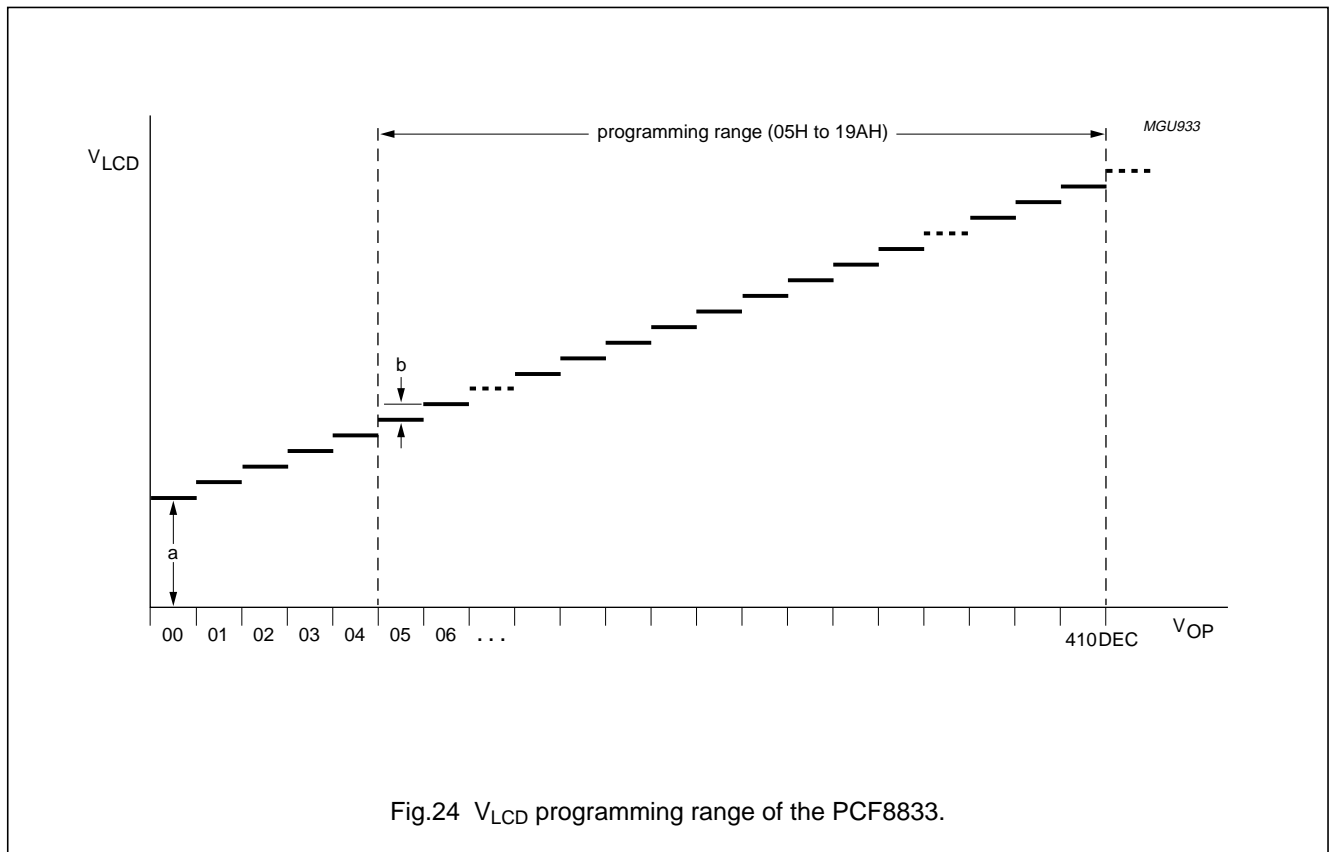

Fig.24 V_{LCD} programming range of the PCF8833.
The generated V_{LCD} can be calculated with equation (1). Figure 24 is the graphical equivalent to equation (1).
The $VOP[8:0]$ value must be in the V_{LCD} programming range as shown in Fig.24. Evaluating equation (1), values outside of the programming range indicated in Fig.24 may result. Calculated values below 0 will be mapped to $V_{OP} = 0$; resulting V_{OP} values higher than 445 will be mapped to $V_{OP} = 445$. An overview of the complete programming range of V_{LCD} can be found in Section 15.1.